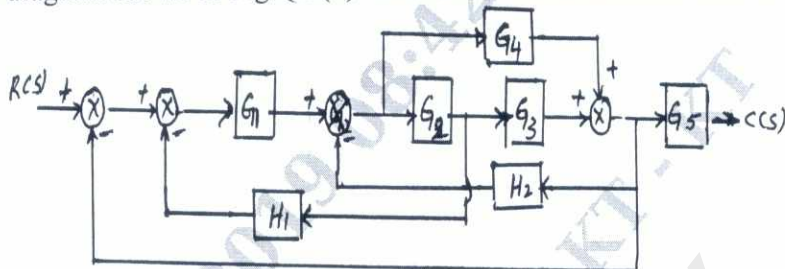

Fig.Q.3(b)
b. For the block diagram shown in Fig.Q.3(b). Determine overall transfer function. (06 Marks)